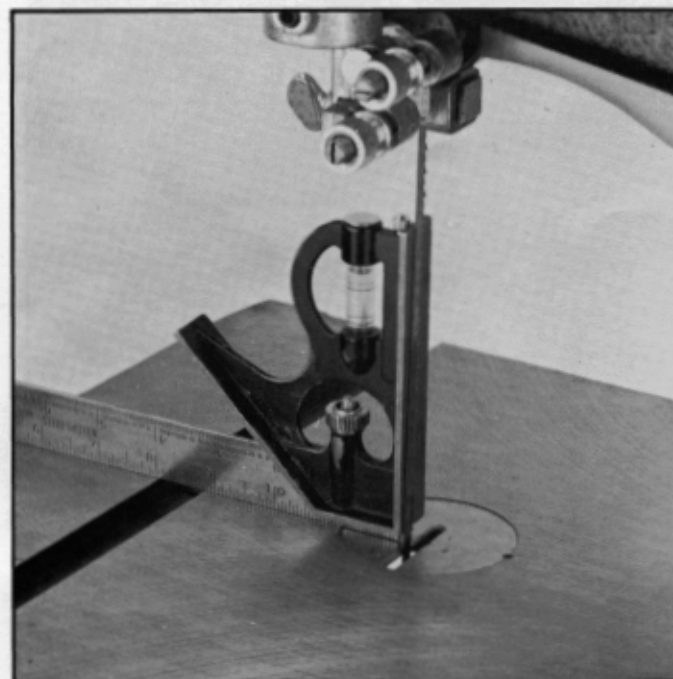

Fig. 30
Tilt the table to the left until the stop contacts the bottom of the table. Place a square on the table and against the blade as shown in Fig. 30 and check if the blade is 90 degrees with the table surface. If an adjustment is necessary, proceed as follows:
3. Lower the table and check to see if the table is 90 degrees to the blade for accuracy, as shown in Fig. 30.